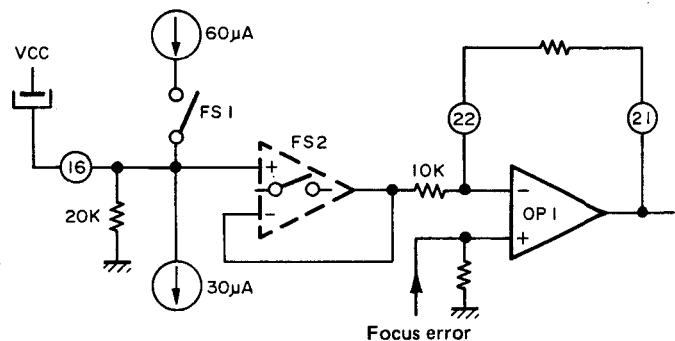

Fig. 7-3 Explanation of FS1, FS2
The operation of FS1, FS2 is described next. ⑯, ⑰ etc. in Fig. 7-3 indicate terminal numbers of CX20108 (same hereinafter) OP1 is the operational amplifier for focus servo and the output of FS2 is connected to its inversion terminal. FS2 is such a switch that is ON and works as a usual voltage follower at the time of 1; and that its output is of high impedance at the time of 0. FS1 is a simple current switch which is OFF at the time of 1 and works to allow flow of 60μA at the time of 0. This value of 60μA is what is obtained when 240μA is fed to ISET ⑭ terminal. The voltage for focus search is produced using these FS1, FS2.